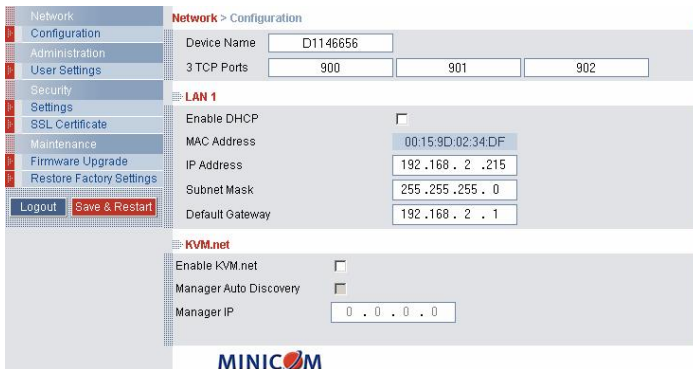

Figure 6 PX Web interface
4. Press **Enter**. The Web interface opens at the Network Configuration page. See Figure 6.
Under LAN 1 in Figure 6, is the following: